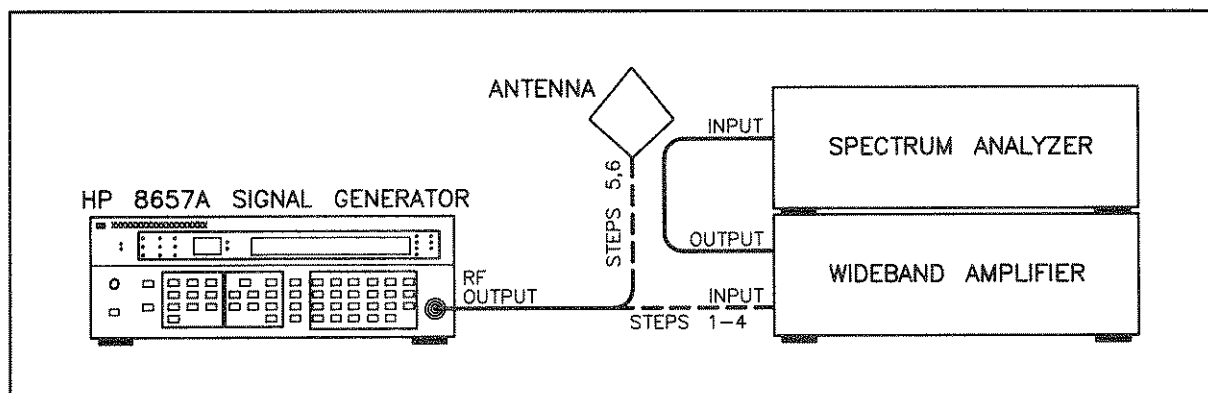

Figure 4-10. Output Leakage Test Setup
1. Connect equipment as shown in Figure 4-10.
- Connect the one-inch loop antenna to the analyzer through the 26 dB amplifier as shown in Figure 4-10. Hold the end of the loop antenna cylinder in contact with the front surfaces of the Signal Generator. All signals and noise should be below the reference graticule line (i.e., below -107 dBm).